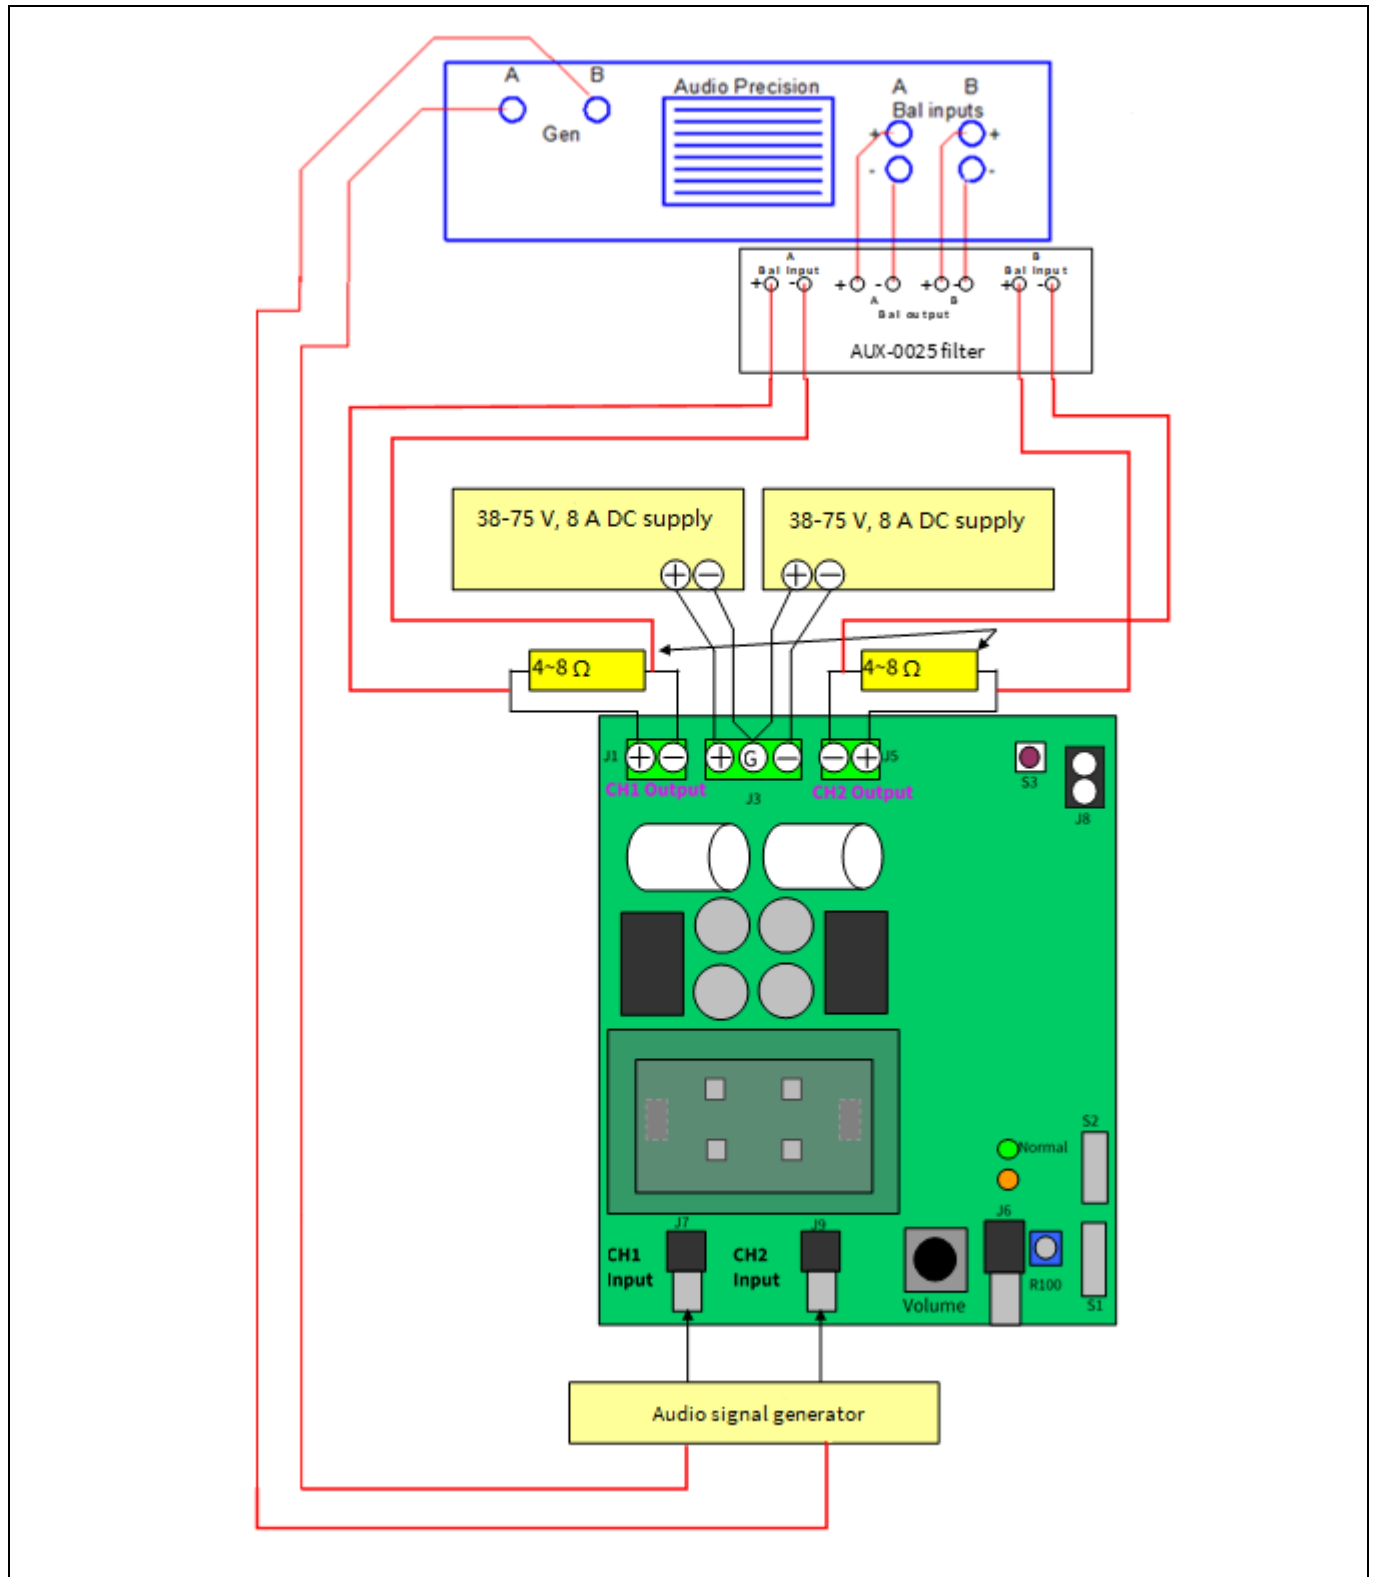

Figure 4 Audio analyzer connection
2. Connect the Audio Signal Generator (ASG) to J7 and J9 for CH1 and CH2 respectively (AP).
7. Connect the dual power supply to J3, as shown on Figure 3 or Figure 4.